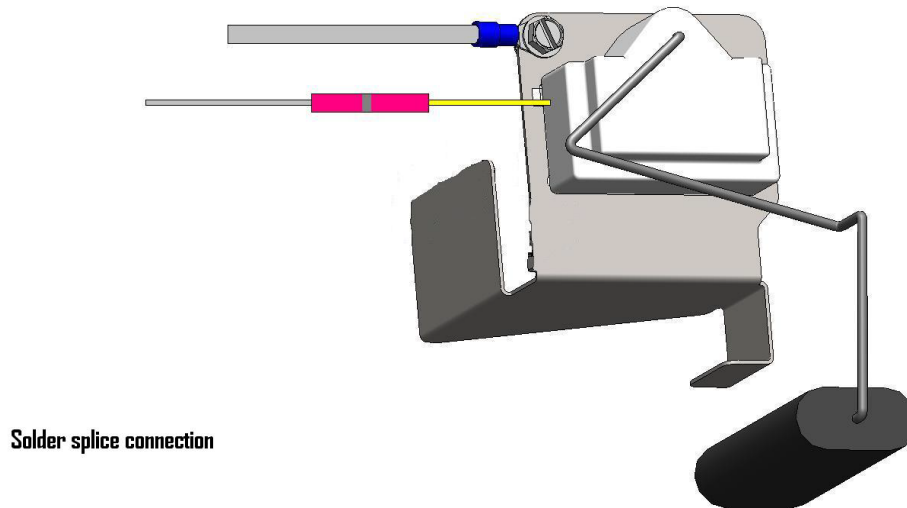

FIGURE 1-3
- 1-7. Before placing the fuel level sender assembly in the tank, attach the two level sending unit wires on the Stealth pump to the fuel level sender assembly. Using the red solder/splice and a heat gun or small butane torch, connect and solder/shrink wrap one of the wires from the fuel pump to the wire on the sending unit itself and mark the corresponding terminal on the outside of the pump with a black marker or masking tape. Next, crimp the provided ring connector on the remaining wire and attach the ring connector to the bracket with the self-tapping screw. See **FIGURE 1-3**